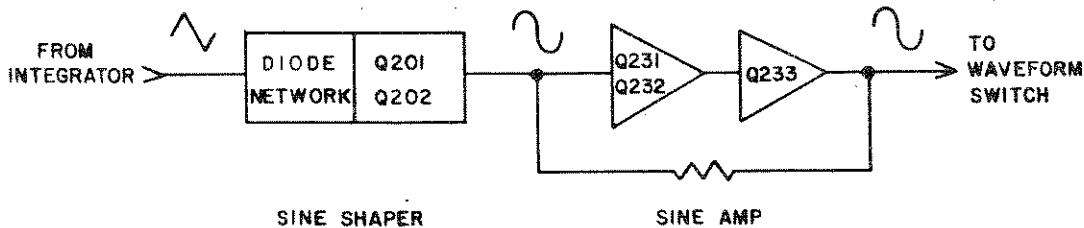

Figure 8. Sine Shaper and Sine Amplifier
4.6 SINE SHAPER AND SINE AMPLIFIER (See Figure 8)